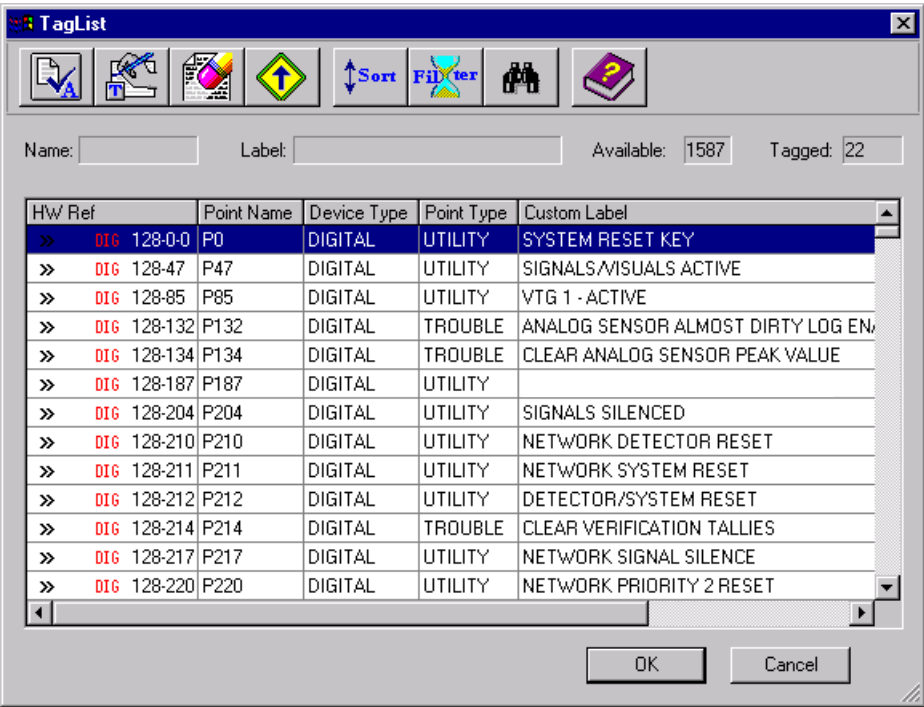

Figure 14-3. Tag List for Extenal Points
2. Click OK. The tag list shown in Figure 14-3 appears. This taglist contains all of the points that are currently declared public on the node selected in Step 1 above.